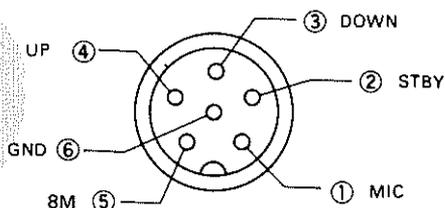

Fig 17. MIC terminals (view from front panel side)
- Connect MIC connector as shown in Fig. 17